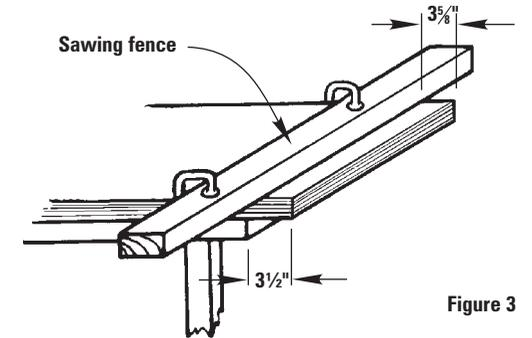

Figure 3
2. Position edge of the panel to be cut so that it extends approximately 3 1/2" from the table edge, and parallel to the table edge (See Figure 3).
parallel to the proposed cut,  $3\frac{5}{8}$ " from and parallel to the panel edge. Clamp the fence securely to the top of the panel with the clamps on the side of the fence away from the cut (See Figure 3). Narrower fences may require a temporary nail or screw in the center of the fence to prevent flexing during the sawing operation.